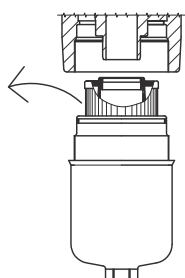

Fig. 2
- 2 Unscrew (the oil drain plug, first if present) the housing using the appropriate tools and extract the filter element (see fig. 2).